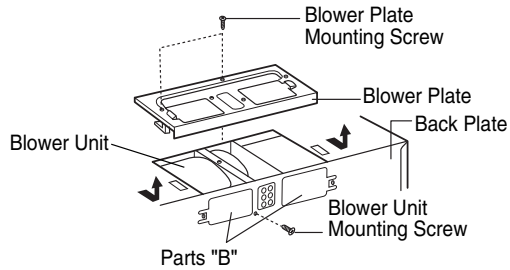

Figure 13
1. Remove one blower unit mounting screw and one or several blower plate mounting screw(s). Remove the blower plate from cabinet. See Figure 13.